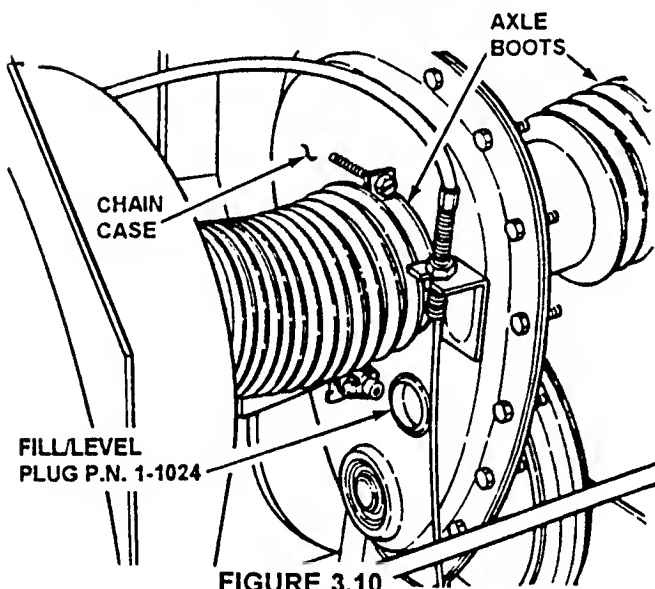

FIGURE 3.10
- a. Check fill/level plug for damage. If signs of wear or cracks are visible, replace plug with new plug. See Figure 3.10.
- b. To check lubricant in chain case, remove fill/level plug and look for lubricant on the internal components of the chain case. If no lubricant is visible, add SNAPPER "00" grease as needed. See Figure 3.10.
Check axle boots for signs of wear or cracks. If cracks or wear are visible, contact a SNAPPER dealer for service. Refer to Figure 3.10.